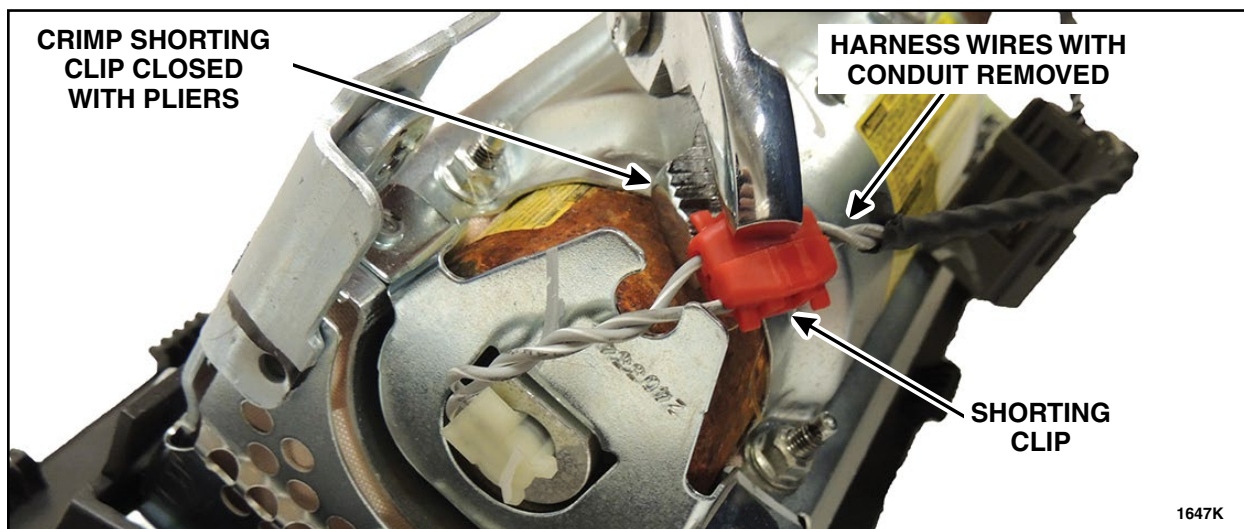

FIGURE 3
5. Position the shorting clip onto the harness wires, and crimp the shorting clip together one side at a time using pliers. See Figure 3.